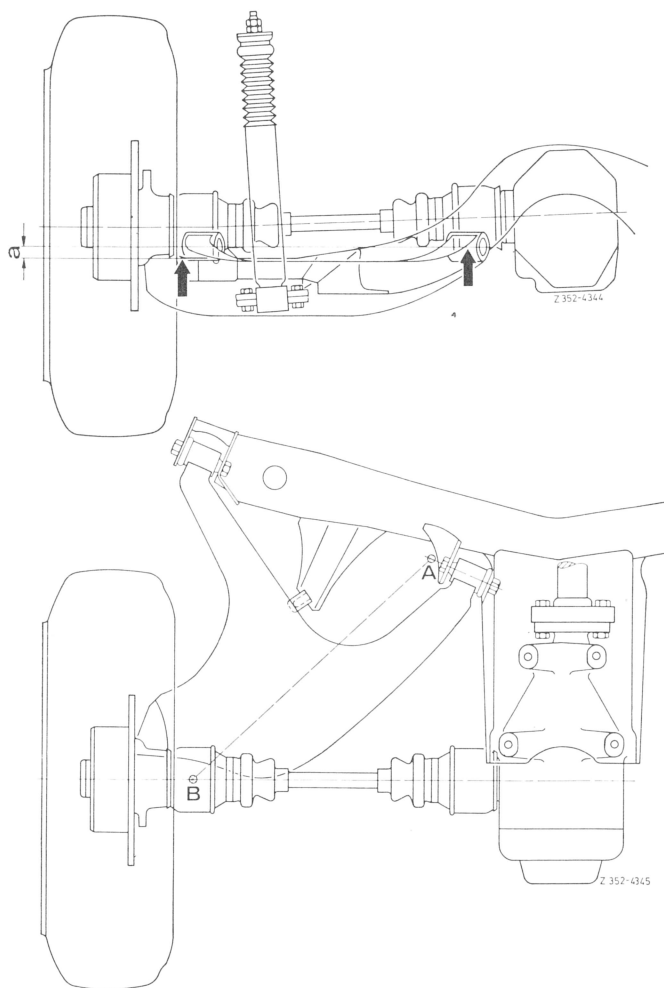

Fig. 3
2 Check semi-trailing arm position of rear axle with measuring instrument (53) (Fig. 3 and 4).